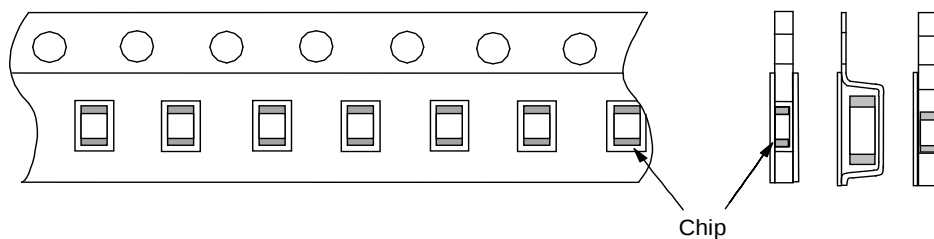

Fig.2 Dimensions of Reel
Fig.1 t:1.6mm (GCJ15:0.8mm)  Fig.2
1.11 Reel is made by resin and appeaser and dimension is shown in Fig 2.